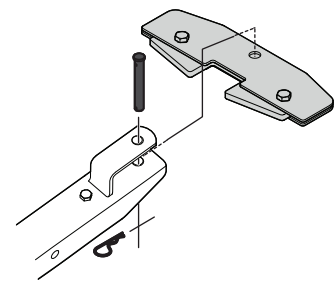

Figure 30
6. Insert mounting pin and secure with bowtie clip as shown in Figure 30.